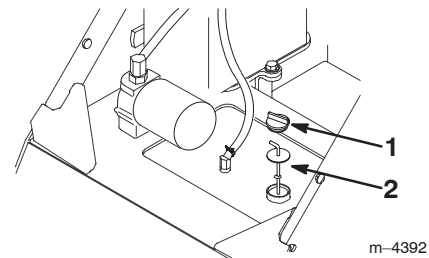

Figure 5
4. Clean the area around the filler neck of the hydraulic tank (Fig. 5).
5. Remove the cap from the filler neck and check the fluid level on the dipstick (Fig. 5).